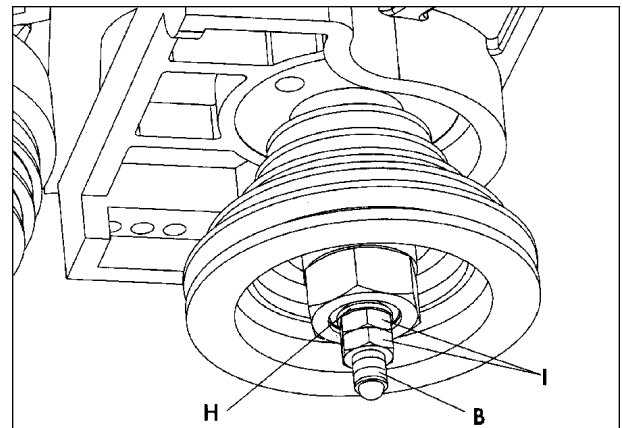

FIGURE 14
8. Open the cabinet door and assemble the special bevel washer (H) to the bottom of the draw bar (B) as shown in Figure 14.
9. Assemble and securely tighten the two lock nuts (I) with a 19mm wrench. See Figure 14.